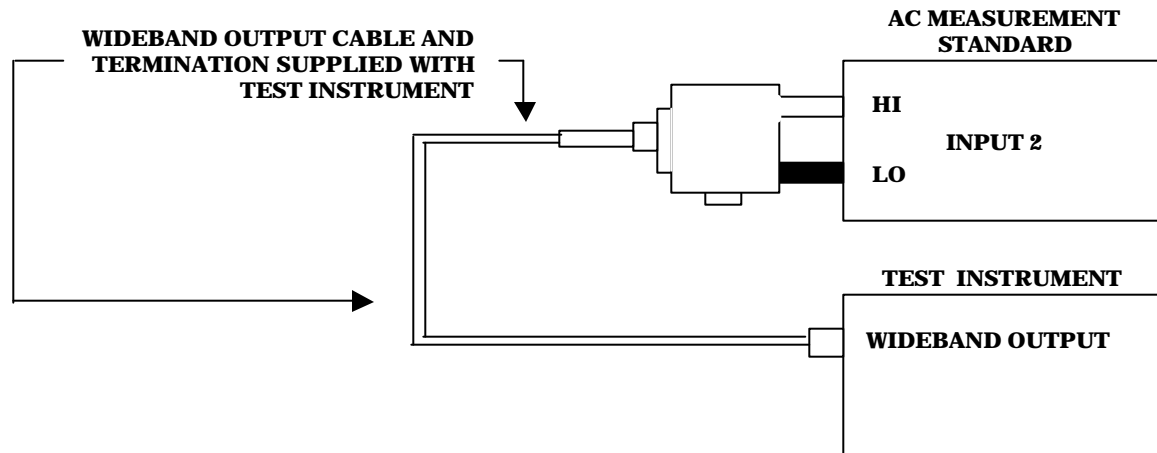

Figure 12. 1 kHz output level.
(1) Connect equipment as shown in figure 12.